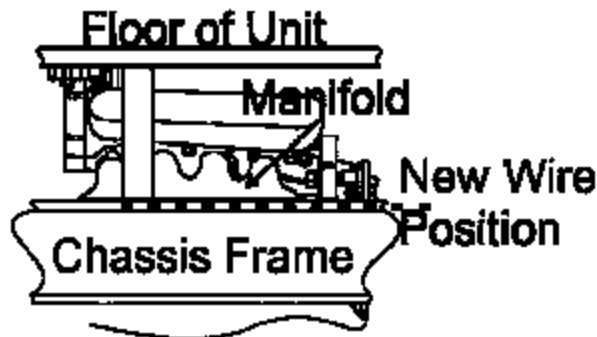

Fig. 2
2. Move the wires from inside the frame rail and reposition them outside of the frame rail from the transmission forward of the engine. (Fig. 2)